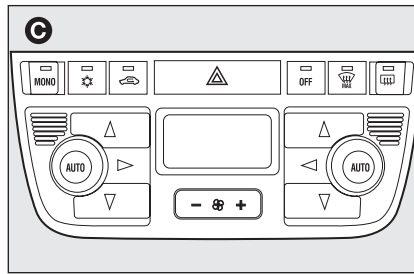

fig. 6
- with two-zone automatic climate control system **C-fig. 6**.